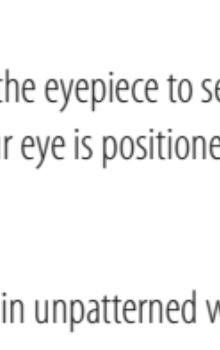

Fig. 3-4
(2) Focusing
① Look through the eyepiece with your eye positioned about 10 cm (4 in.) away from the eyepiece to see the SPEEDFORCE reticle (Fig. 3-4), the X-MOA reticle (Fig. 3-5), or the X-MRAD reticle (Fig. 3-6). Be sure your eye is positioned with proper alignment and with proper eye relief, otherwise the view will "black out."
② Point the objective end of the scope at the sky (do NOT point it at the sun) or at a plain unpatterned wall.
③ Turn the eyepiece adjustment counter-clockwise and then turn it clockwise until the reticle appears sharp.